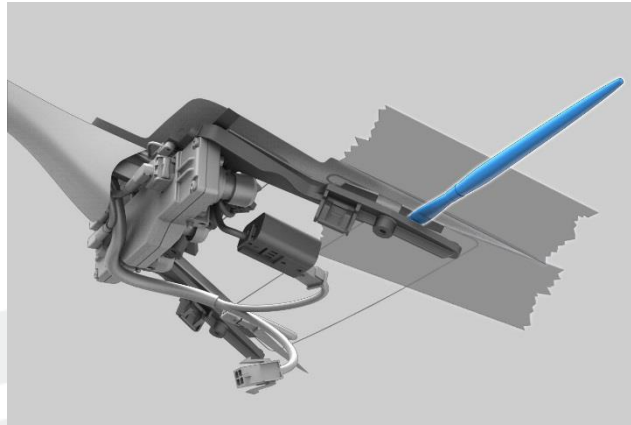

Figure 6 (RH shown, LH similar)
8. Apply Betaprime primer to the windshield and the side of the triple camera windshield bracket that makes contact with the windshield (Figure 6). Let the primer dry for 2 minutes.